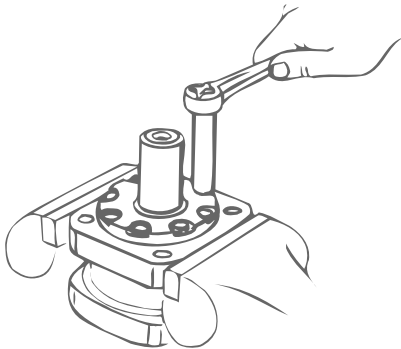

Figure 7
16. Use a stud remover or vise grips to remove studs (earlier models only). Then clamp bearing housing in vise as shown in Figure 7. Loosen 6 bolts. Then remove bolts and retainer. You may have to pry retainer free but do not damage housing or retainer.